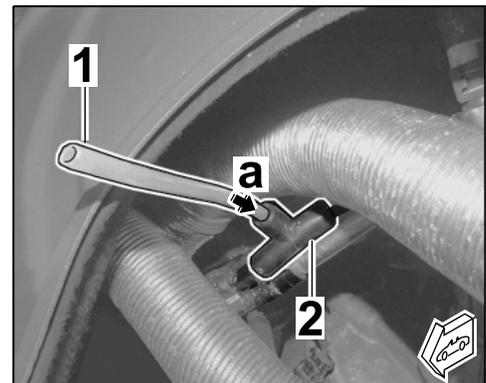

Figure 23
- 3.6.3 Insert 100-mm plastic tube ⇒ *Figure 23-1*- into the T-piece ⇒ *Figure 23-2*- (⇒ *Figure 23-a*-).